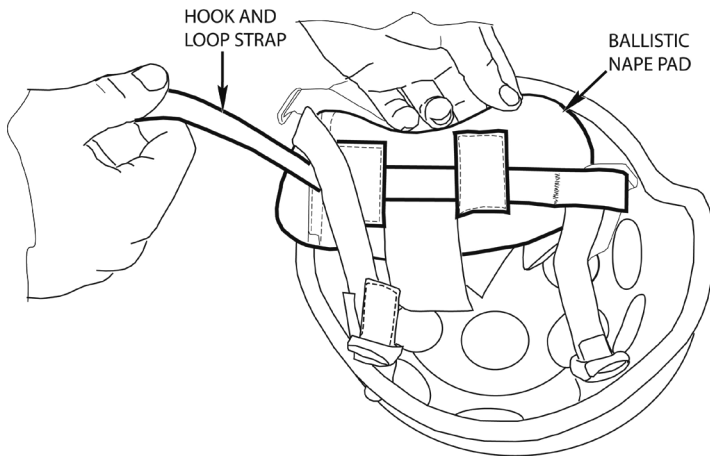

Figure 3. Attach the Ballistic Nape Pad.
6. Thread the free end of the hook and loop strap around the retention strap webbing and back through the ballistic nape pad elastic loops as shown in Figure 3.